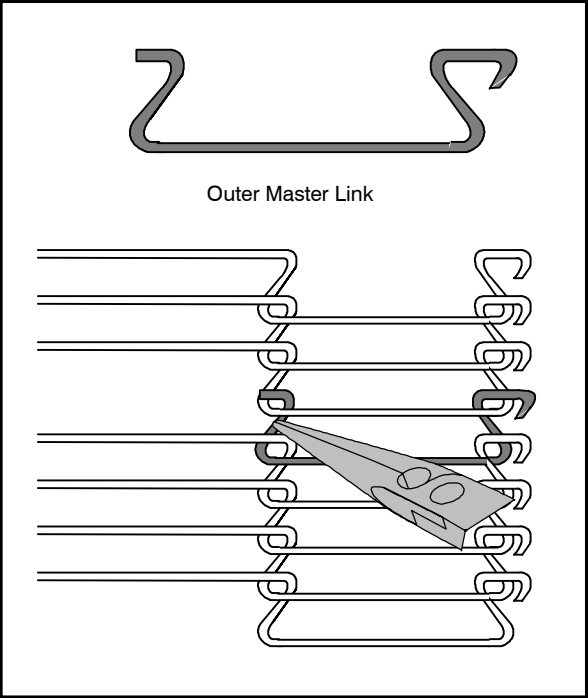

Figure 13
7. Install the outer master links to finish connecting the two ends of the conveyor belt. See Figure 13.